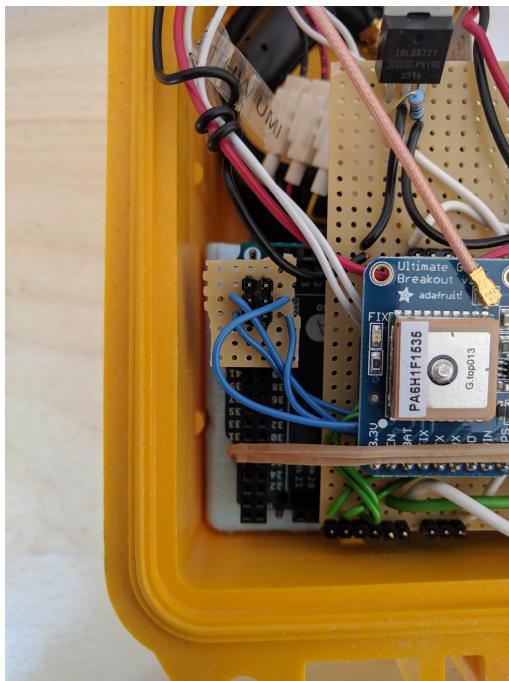

Figure 13: The small connection board can get disconnected under heavy sustained vibrations.
- No fast blinking of the SD card LED: make sure SD card correctly inserted (cause 1), check all electronics correctly inserted in each other (cause 2). Both cause 1 and 2 were observed after long, very bumpy snowscooter transport. Inserting back the boards into each other and plugging in and out the SD card solved the problem. It seems that the small connection board (see Fig. 13) especially has a tendency to bounce out under heavy vibration loads.